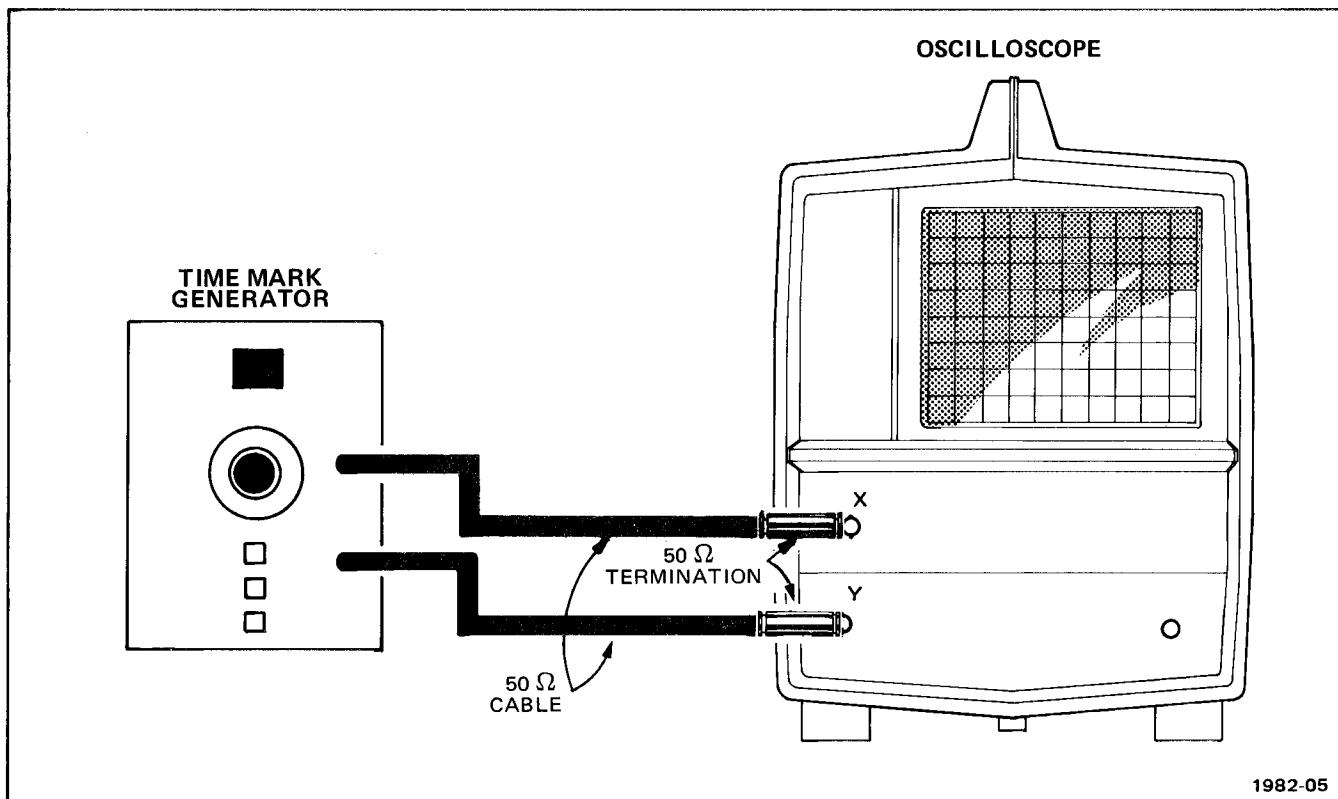

Fig. 3-5. Timing accuracy check test setup.
a. Connect test setup as shown in Fig. 3-5.